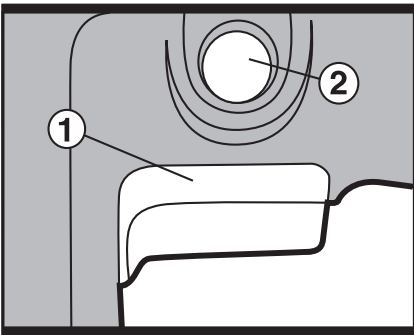

Fig 2
Depress on/off switch (1) then lock-on button (2) (See Fig 2), release on/off switch first then lock-on button second. Your switch is now locked on for continuous use. To switch off your tool just depress and release the on/off switch.